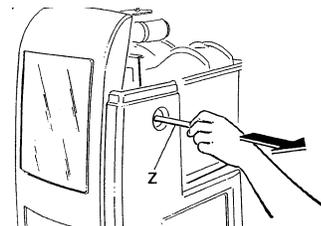
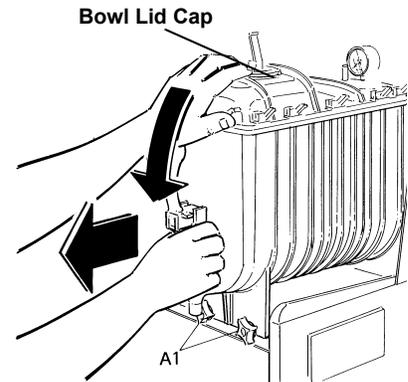
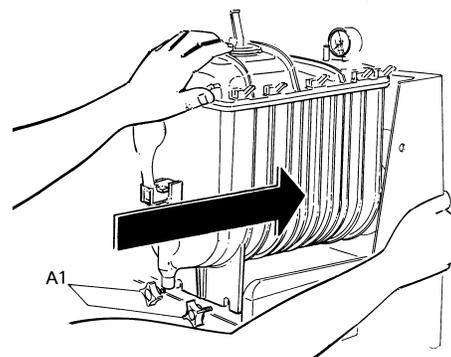

FIGURE 18
FIGURE 19
FIGURE 26
24. Slide the locking bar (Z) - FIGURE 18 - outwards so that the bowls are fully released. Unlock relief valve on the bowl lid cap and remove (FIGURE 19).
25. Unscrew the knobs (A1) so the bowls can be lowered slightly, open the tap to remove any remaining liquids and then extract it from its seating, pulling it outwards (FIGURE 19).
34. Fasten the bowl in place by tightening the knobs (A1) - FIGURE 26 and the locking bar (Z) - FIGURE 18. Reverse steps 3 and 4.